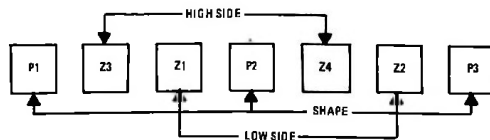

Figure 6. Inductor Location Diagram (Each band is configured identically.)
Alignment procedures are the same for the 8 remaining bands. Refer to table 1 and figures 6 and 7 for related frequencies and components. Be aware of the following: Inductors Z1 and Z2 produce notches in the frequency response below the pass band, and are the major factors determining the lower corner frequency. Likewise, inductors Z3 and Z4 produce frequency response notches (zeroes) above the pass band and are the major factors determining the upper corner frequency. Inductors P1, P2 and P3 produce peaks (poles) in the pass band response (which are quite indistinct because of their interaction with the circuit elements associated with inductors Z1 thru Z4) and are used to flatten the response within the pass band.
j. Adjust the corresponding Z1 inductor (figure 6) so that its associated response notch is centered on the marker.